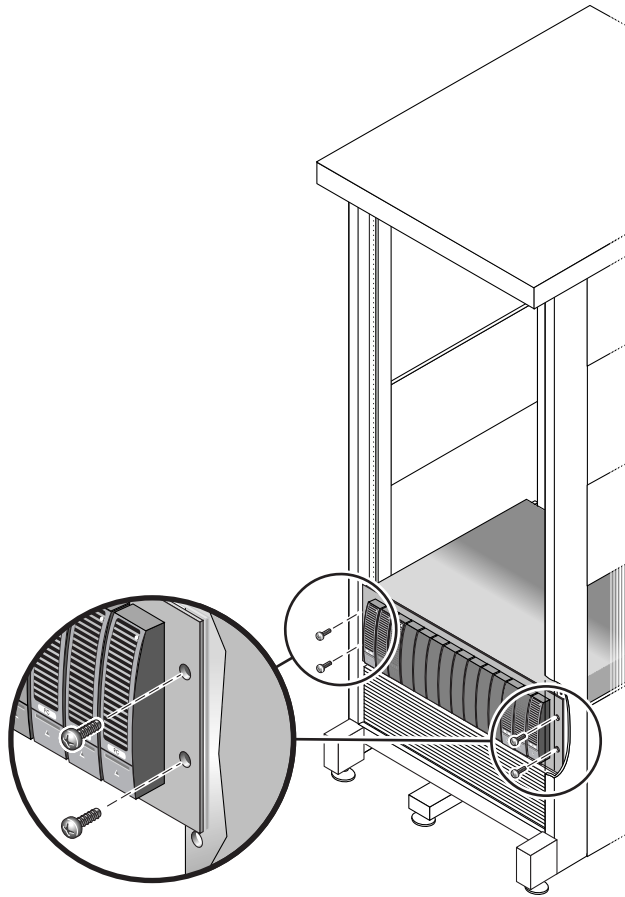

FIGURE 2-17 Securing the Array to the Front of a Sun Rack 900/1000 Cabinet
- For a Sun Rack 900/1000 cabinet, use the #3 Phillips screwdriver to install and tighten four M6 screws (two per side) to secure the array to the front of the cabinet (FIGURE 2-17).